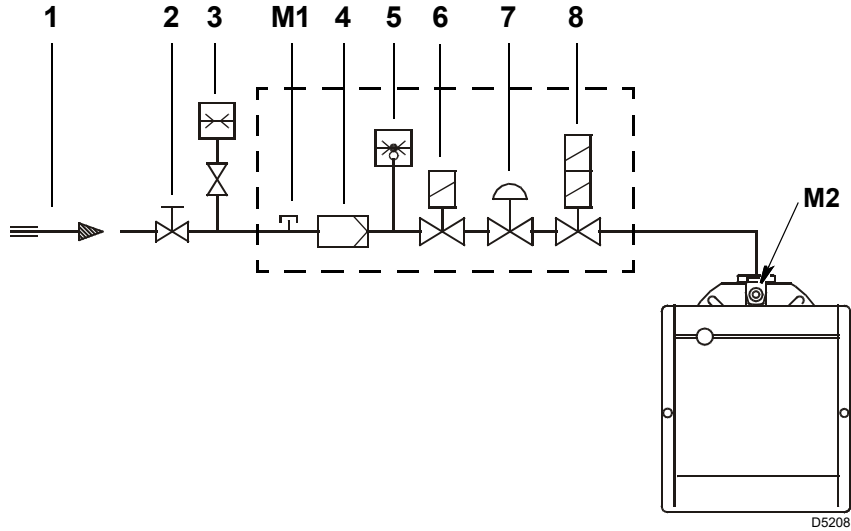

Fig. 16
Key (Fig. 16)
Gas pressure measured at test point M2)(Fig. 16 on page 18), with:
- subtract the pressure in the combustion chamber from the pressure of the gas at test point M2)(Fig. 16 on page 18).
$$\begin{aligned} \text{Gas pressure at test point M2)(Fig. 16 on page 18)} &= 10 \text{ mbar} \\ \text{Pressure in combustion chamber} &= 2.2 \text{ mbar} \\ 10 - 2.2 &= 7.8 \text{ mbar} \end{aligned}$$
To calculate the required gas pressure at test point M2)(Fig. 16 on page 18), with the maximum modulating output at which you want the burner to operate having been fixed:
- Read on the right, column 1, the pressure at the socket M2)(Fig. 16 on page 18).
pressure required at the test point M2)(Fig. 16 on page 18).